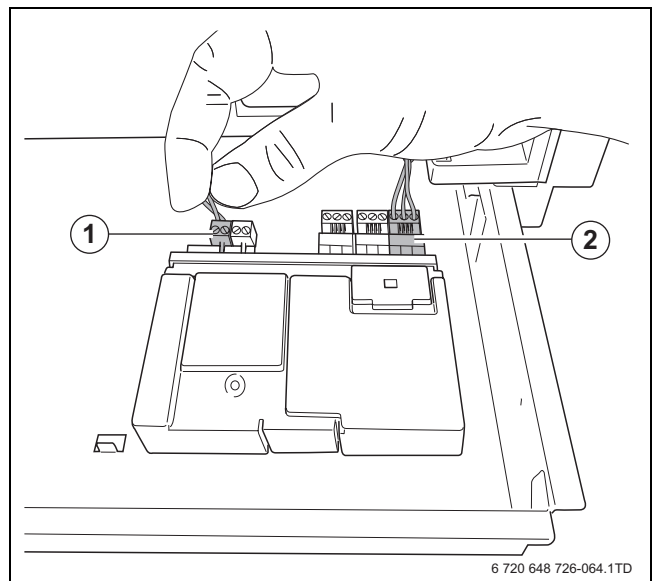

Fig. 64 Interconnecting modules
- ▶ Connect the free connector of the EMS bus connection cable to the first module (→ fig. 64, [2]).